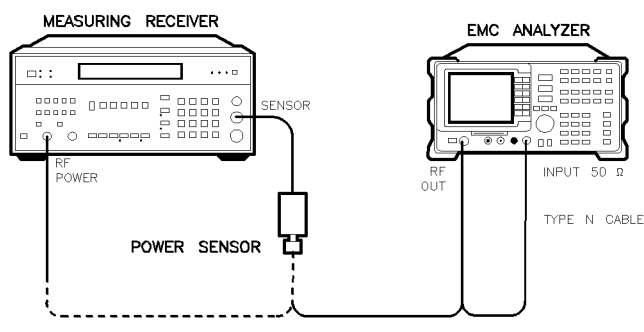

Figure 2-76. Tracking Generator Level Flatness Test Setup, HP 8591EM
1. Connect the Type N cable between the RF OUT 50 Ω and INPUT 50 Ω connectors on the EMC analyzer. See Figure 2-76.